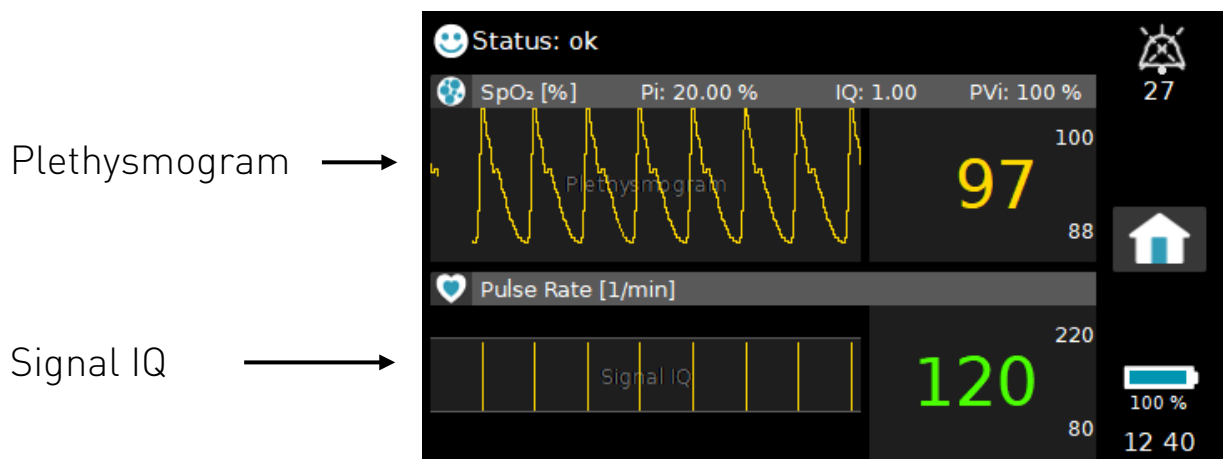

Fig. 39 View 2 Screen Content
**View 2** shown in Fig. 39 differs from **View 1** in that the quality indicators described in section 3.4.6 for SpO2 are replaced by their corresponding waveforms: